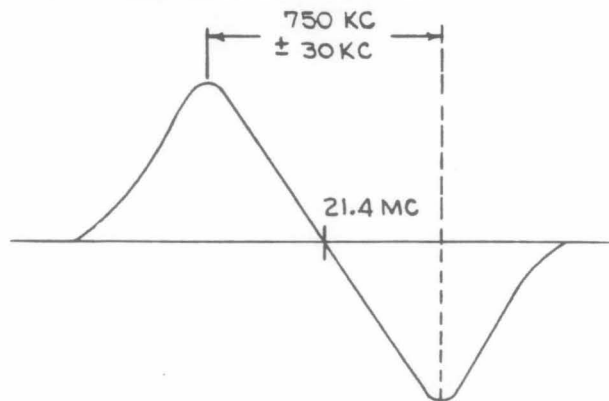

Figure 5-17. Type 901 Receiver, Typical Response Curve, Discriminator Alignment
- (2) Adjust Jerrold 900-A sweep generator near 21.4 mc for narrow sweep width with its detector switch at external detector position.
- (3) Set oscilloscope vertical sensitivity at 50 mv per cm and adjust sweep generator sweep width until a response curve is well displayed on oscilloscope screen.
- (4) Set receiver bandswitch to 300 KC position.
- (5) Adjust phasing of the sweep generator.
- (6) Adjust L611 for zero crossing of S-curve at 21.4 mc and adjust L610 for symmetry of S-curve, as shown in Figure 5-17.
- (7) Using calibrated 21.4-mc marker from Hewlett-Packard 606A signal generator, check that the S-curve has the following characteristics:
- (c) peak-to-peak separation of 750 ± 30 kc, as shown in Figure 5-17.